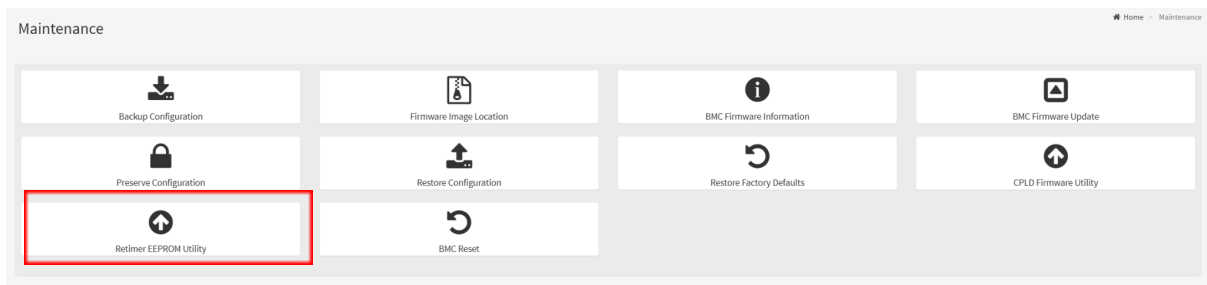

Figure 112. Navigating to the Retimer EEPROM Utility section.
- D. Select the Retimer EEPROM Utility option (see Figure 112).